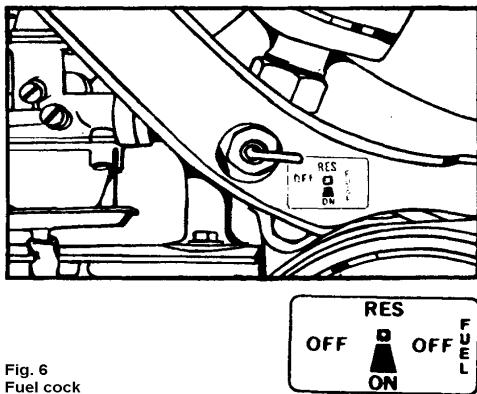
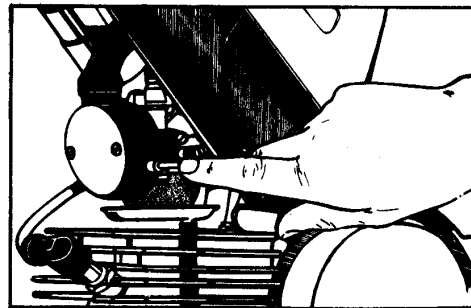

Fig. 6
Fig.7 – Air intake shut – off pushord
- e) Fuel cock lever (Fig. 6,)
- f) Choke (Fig.7)
Open the fuel cock (Fig6) push in the choke pin (Fig.7) as far as it will go the pin returns immediately into its original position but the air intake remains throttled – the engine is supplied with a richer mixture. Two methods can be used for starting the engine.
If you have to slow down, release the twist grip and apply the brakes by pulling the brake levers (2.3 -Fig.2). Proceed in the same way to stop the moped. The reduction of engine speed results in the disengagement of the driving clutch, and the engine runs at idling speed. To continue the ride, just accelerate (turn the twist grip). The driving clutch engages and the moped starts moving. At the end of the trip stop the engine by depressing kill switch push button and shut off the fuel supply by turning the lever of the fuel cock (Fig. 6)